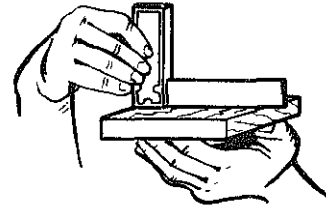

Fig. 5-16 Testing the face for straightness across width
3. Lay the try square along the length and then across the surface diagonally to test further for straightness (figure 5-16). Mark the high spots.